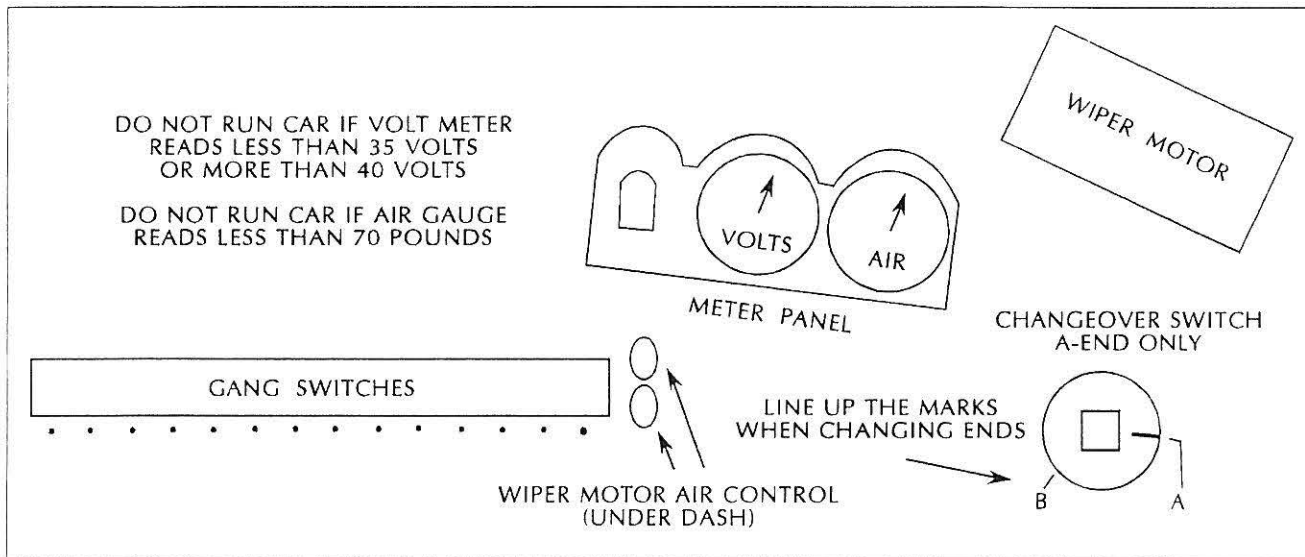

Figure 15. Control Layout – Windshield Area
6. Observe the voltmeter on the dashboard (figure 15) to be sure it reads between 30 volts and 38 volts. If it does not read within this range **do not attempt to run the car.** Follow the **Power Down** procedure to secure the car, make note of the problem on the chalk board in the substation, and complete a car condition report form.
8. The changeover switch must be set to the end you wish to run from. This switch is located at the "A" end in the dashboard below the right window (figure 15), above the snap switch equipment locker. Insert the square protrusion on the bottom of the Hook into the switch, and turn all the way until the marks line up with the end from which you wish to run. Make sure the switch is turned all the way.
9. When the air pressure gauge (figure 15) at either end of the car indicates about 70 psi, release the handbrakes. This is done by pulling up the small lever on the right of the brake. The brake will release all at once if set. Make sure the handbrakes at **both ends** are released before attempting to move the car. Occasionally the handbrakes will not release all the way. If this happens, the car may bind up and possibly refuse to move through tight curves such as the barn ladder track or Arden Loop. If the car stops while going through tight curves, re-release the handbrakes at both ends.